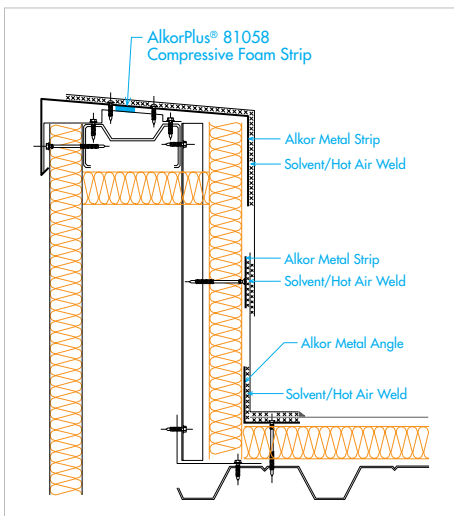

Fig. 4: AlkorPlus® compressive foam strip 81058
- With an AlkorPlus compressive foam strip 81058 underneath the AlkorPlan® metal sheet trim, the parapet top is sealed against wind pressure. (See Fig. 4) The membrane is protected from an abrasive upstand surface by an AlkorPlus® 81005 protective layer (min. 300 g/m2). Where the parapet height exceeds 500 mm, intermediate support with a continuous AlkorPlan® metal sheet (50 mm wide) is required.